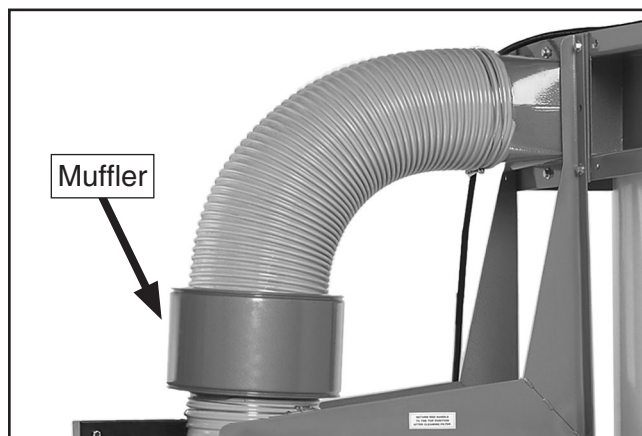

Figure 23. Muffler properly positioned between the two gray flexible hoses (Model G0441).
- b. Attach the 8" x 5" gray flexible hose between the canister adapter and the muffler with two 8" hose clamps, then attach the 8" x 20" gray flexible hose between the muffler and the outlet port with the remaining two 8" hose clamps (see **Figure 23**).